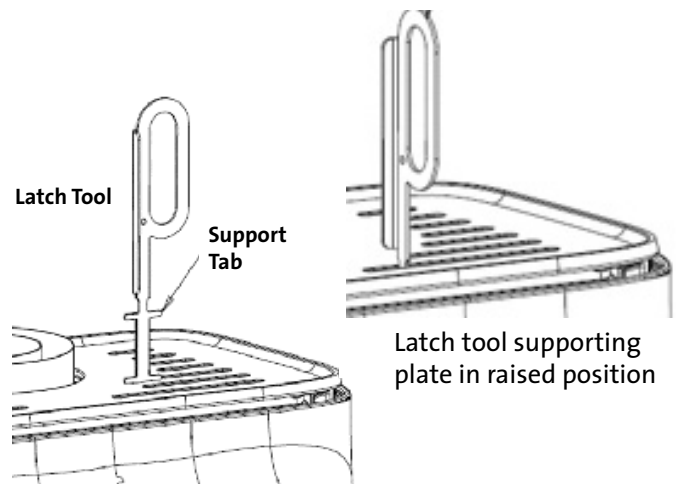

Figure 2.3. Using Latch Tool to raise and support Top Plate.
- To lift the Top Plate, insert the Latch Tool through a forward grill opening and twist it 90° to engage the **Support Tab** under the grate bar. Raise the plate, resting the end of the tool on the firebox to support the plate in a raised position. See fig. 2.3.